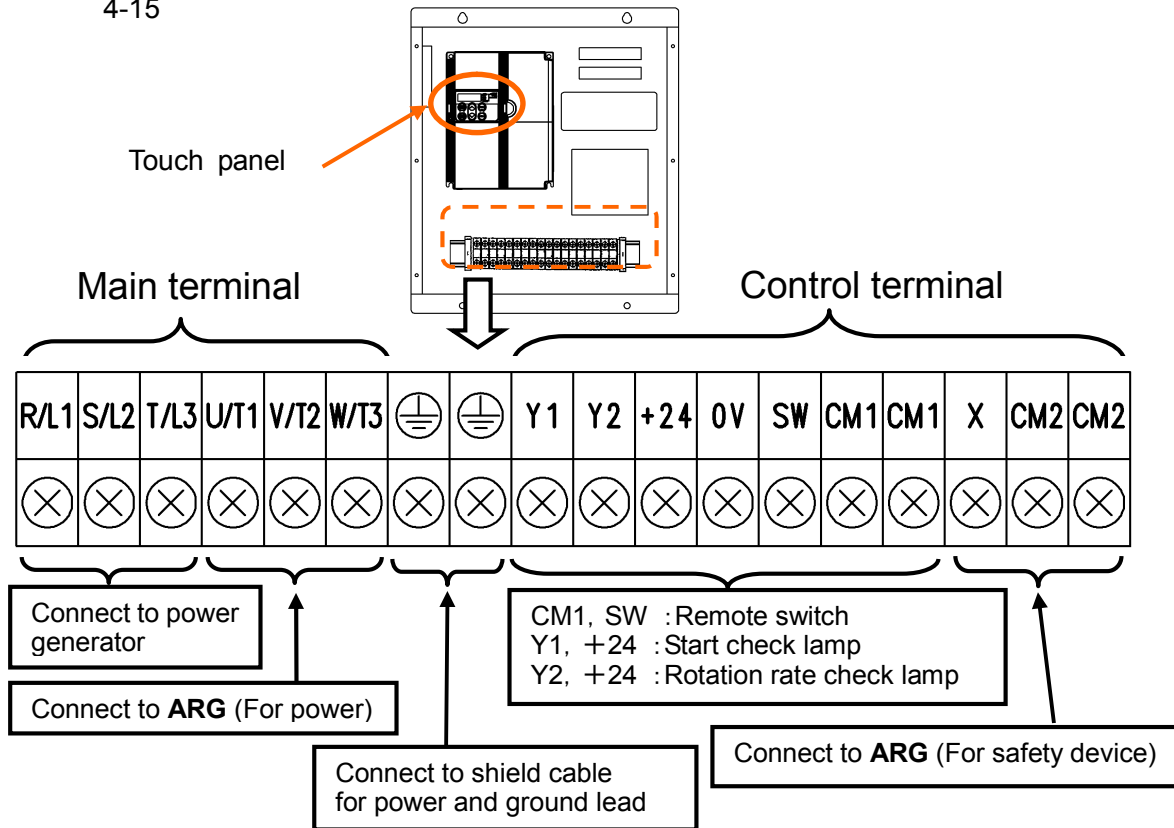

Figure 4-15 Terminal arrangement of the Motor Driver
Please see Figure 4-15 for the location of the connecting terminals.
- ③ After removing the lid, there are terminal board with a safety cover as shown in Figure 4-15